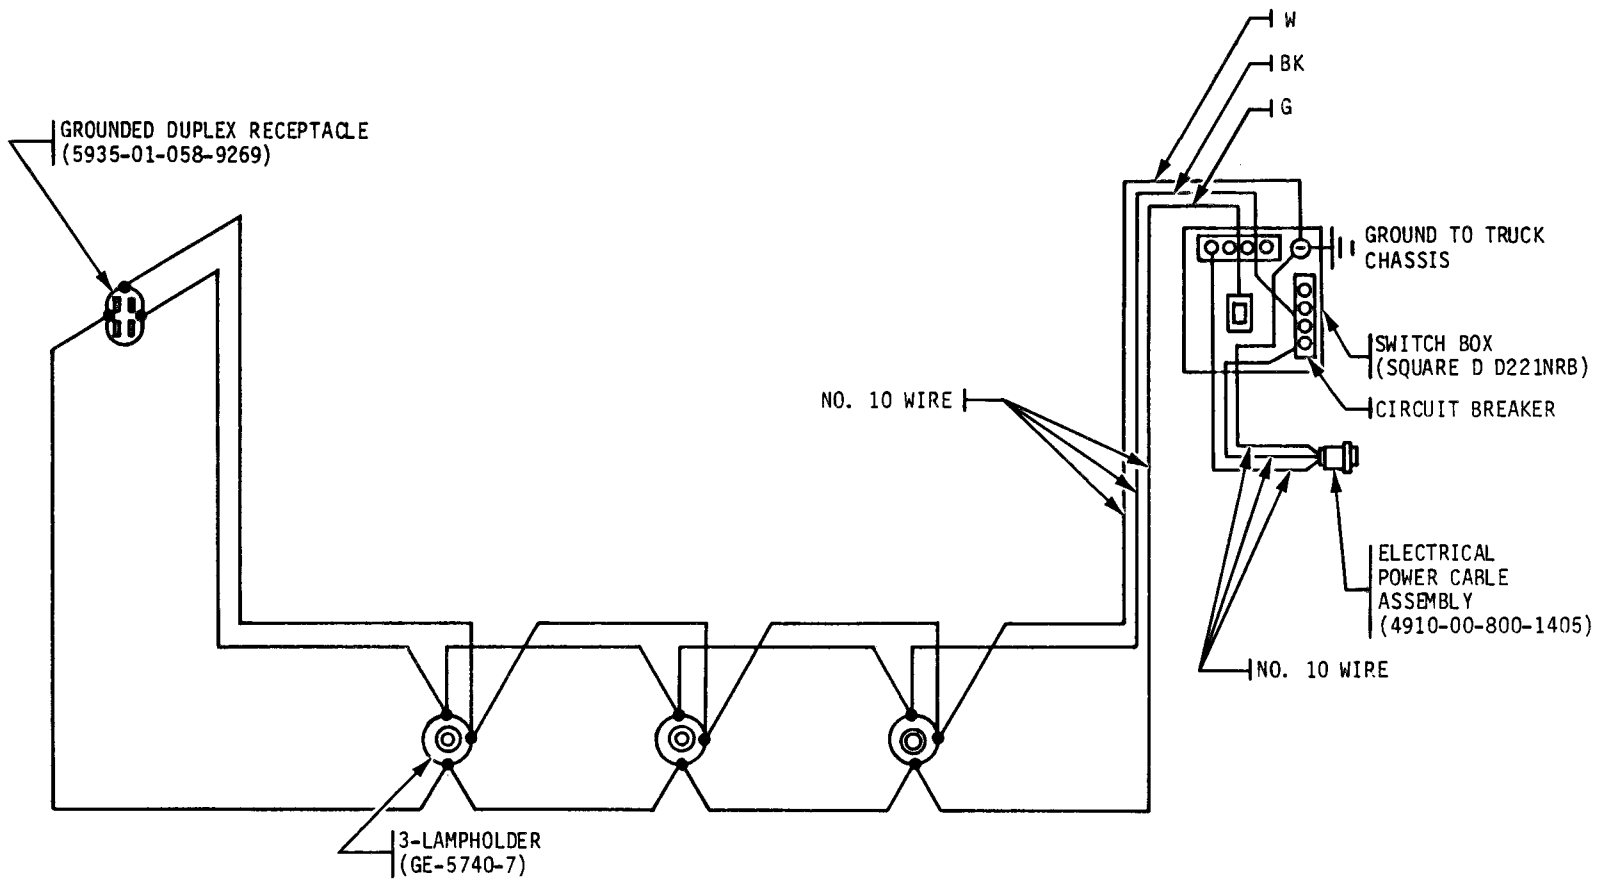

Figure 14. Electrical Schematic, M35A2.
(14) Secure power cable assemblies to bows with ten 12-in. tiedown straps (MS3367-3-0). Refer to figures 8 and 9. Refer to figure 14 for electrical schematic.